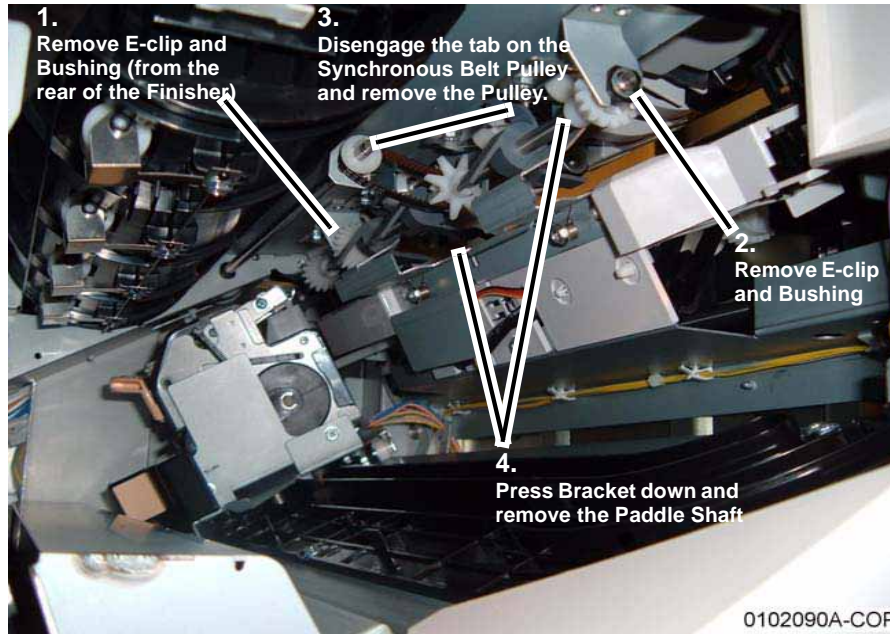

Figure 1 Removing the Paddle Shaft
4. Remove the Paddle Shaft (Figure 1).